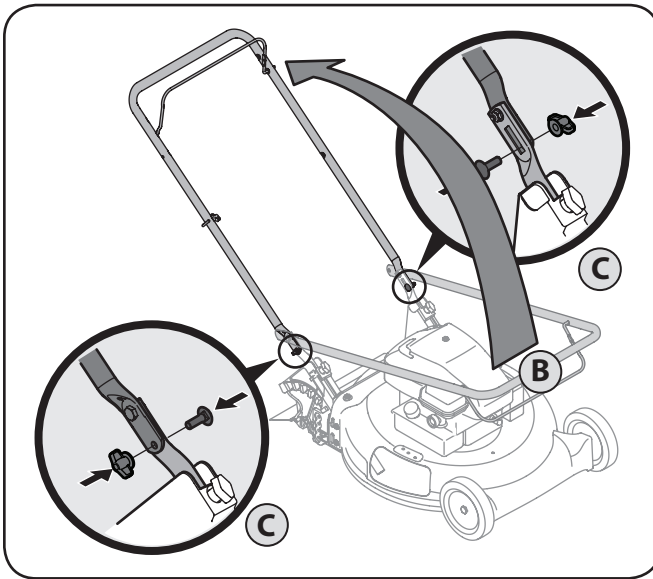

Figure 3-2
- b. While stabilizing mower so it doesn't move, pivot upper handle up as shown in Figure 3-2. Do not crimp cable while lifting the handle up.
- c. Reattach bolts and wing nuts removed earlier into lower holes of handle as shown in Figure 3-2 inset.